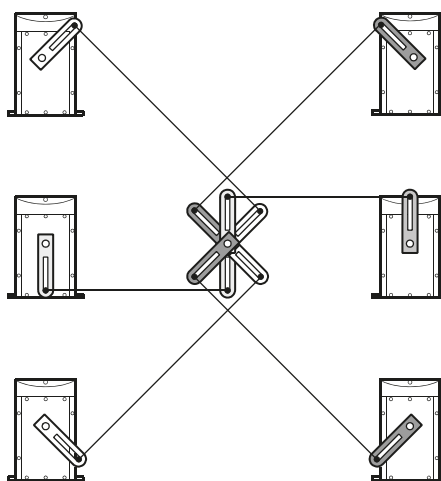

Figure-35 Typical Actuator Mounting Positions.
- 2. Mount the actuator in an appropriate position near the damper. Refer to Figure-35. Actuators must be linked to the damper so that it can complete its full stroke. Damper rod that is too long is not rigid enough for good control and damper rod that is too short makes it difficult to adjust the linkage.